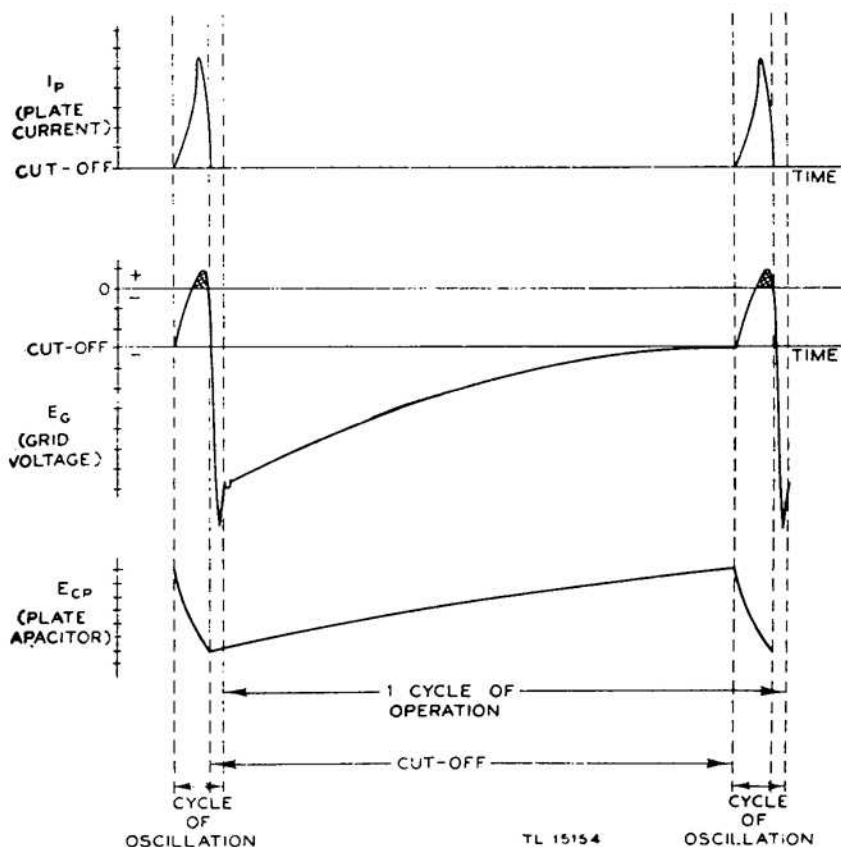

Figure 15. Theoretical current and voltage waveforms of blocking oscillator.
(1) The saw-tooth generator of the adaptor uses a single-swing blocking oscillator whose output is taken off across a capacitor C111A in the plate circuit. An external 60-cycle, a-c voltage is injected into the grid circuit to synchronize the recurrence frequency at a submultiple of the frequency of the power source. This type of oscillator is known as a single-swing oscillator because the plate current of the tube is cut off at the completion of one cycle of oscillation.
(2) Theoretical curves of voltage and current (theoretical representations) are shown in figure 15 to help clarify the operation of the oscillator circuit shown in figure 14. The circuit consists of a transformer-coupled feedback oscillator, with capacitor C115 in series with one of the grids of V109. This tube is a dual triode. *Disregarding the 6.3-volt, a-c synchronizing voltage for the time*